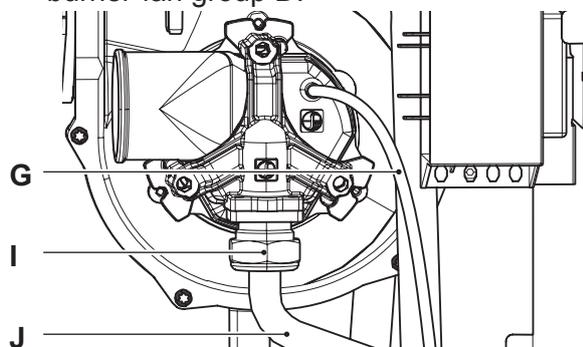

Figure 17.5 (right side of the fan)
- Disconnect the rubber pipe G (Fig. 17.5).
- Unscrew the connector I and remove the gas pipe J (Figure 17.5).